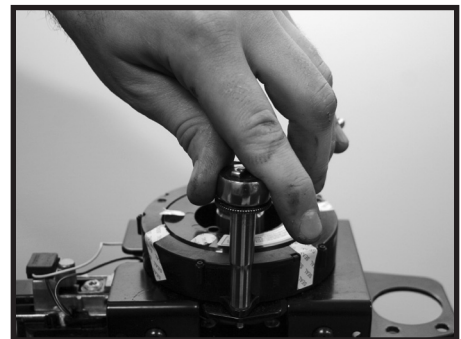

Figure 1
2. Using a 1/4" socket or slot head screwdriver, remove (2) screws securing clockspring. **Figure 1**